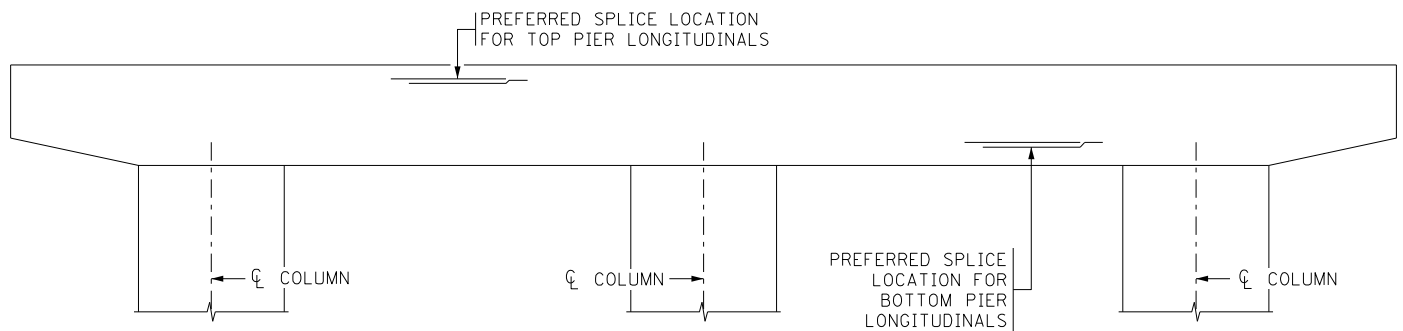

Figure 7
3. Do not place splices at locations of maximum moment. For cap top bars, do not splice over columns. If cap bottom bars are spliced, do not splice at the midpoint between columns or directly over columns; place splice adjacent to column. Avoid placing splices where bearing anchor rods are located. (See Figure 7.)